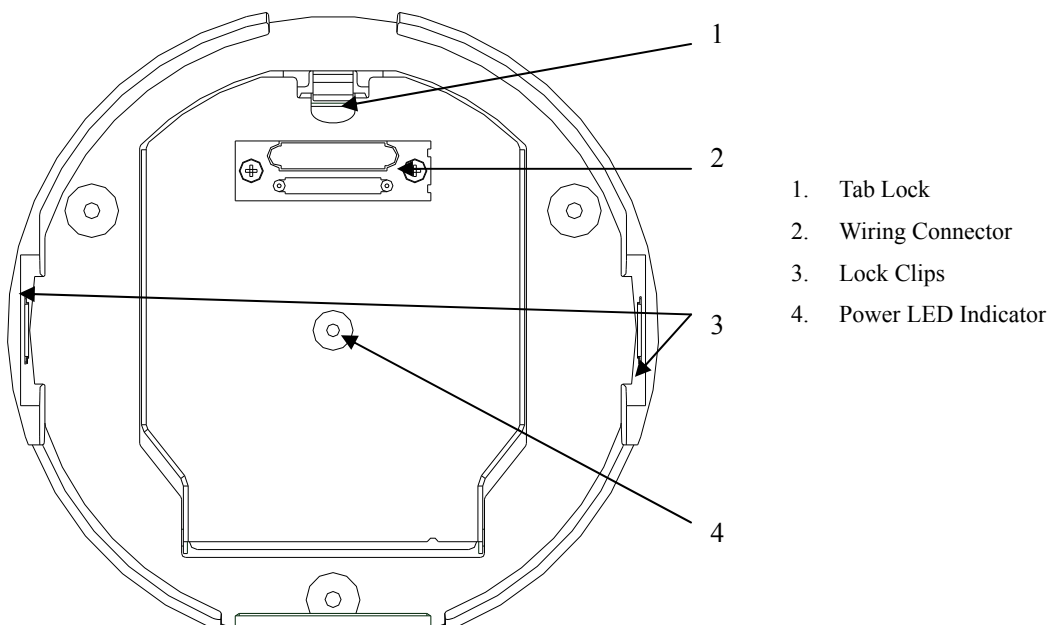
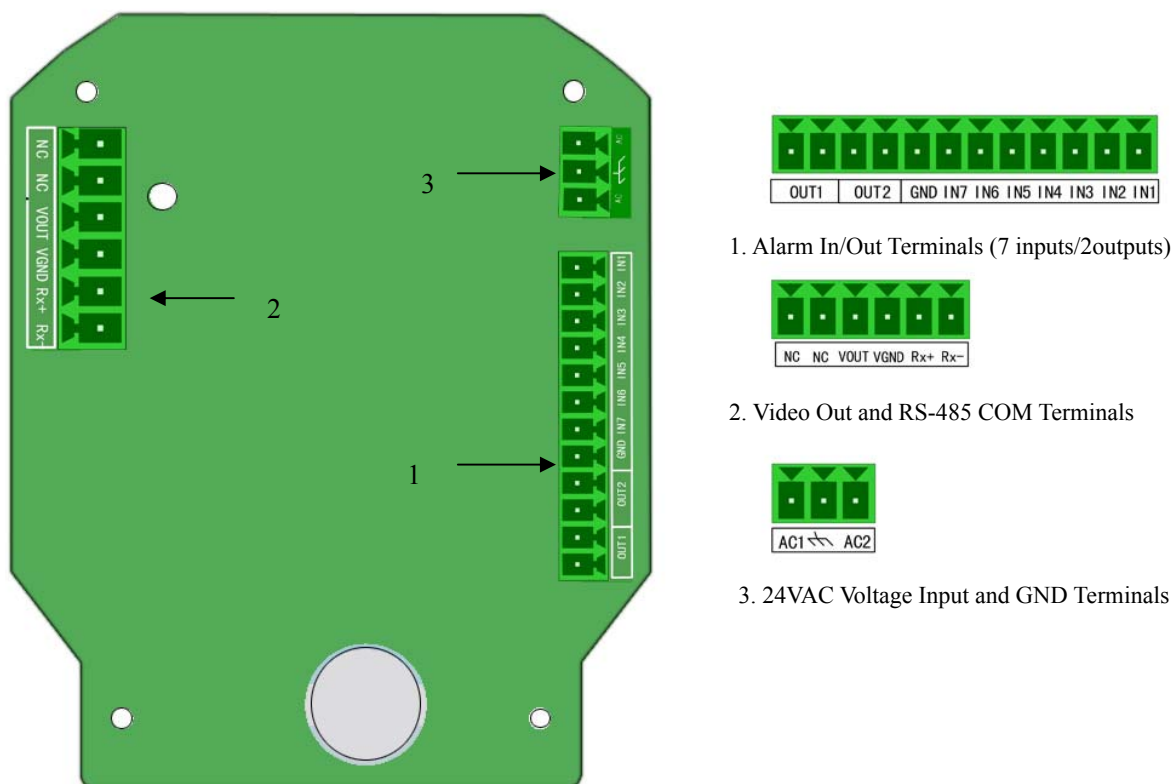
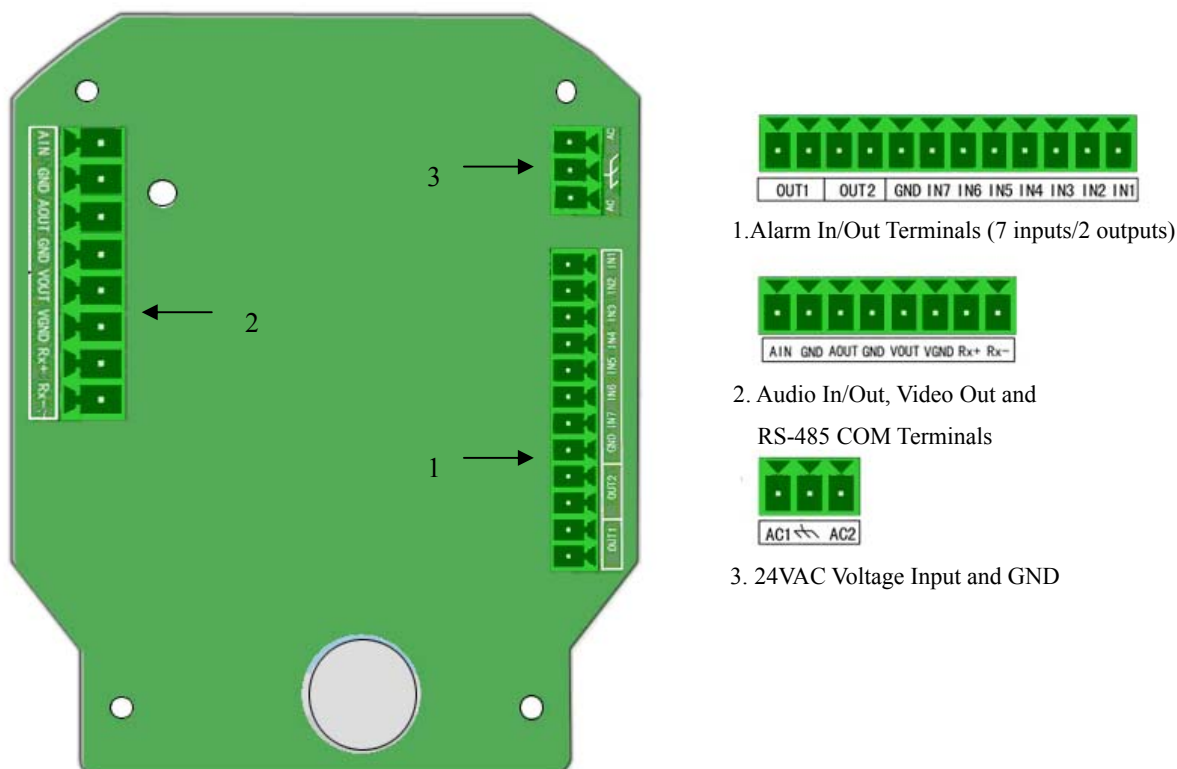

Figure 1.2.3 Back Box Interconnect Board
Figure 1.2.4 Back Box Circuit Board (High Speed Dome and Auto Tracking High Speed Dome)
Figure 1.2.5 Back Box Circuit Board (Network High Speed Dome and Auto Tracking Network High Speed Dome)
4. Push the tab locks on the back box interconnect board and lift the hinged door to the circuit board, as shown in Figure 1.2.3. Unplug the video cable, power cord and other cables terminals to avoid cables twisting during the back box installation. Refer to Figure 1.2.4 (high speed dome) and Figure 1.2.5(network high speed dome) for the wiring terminals.